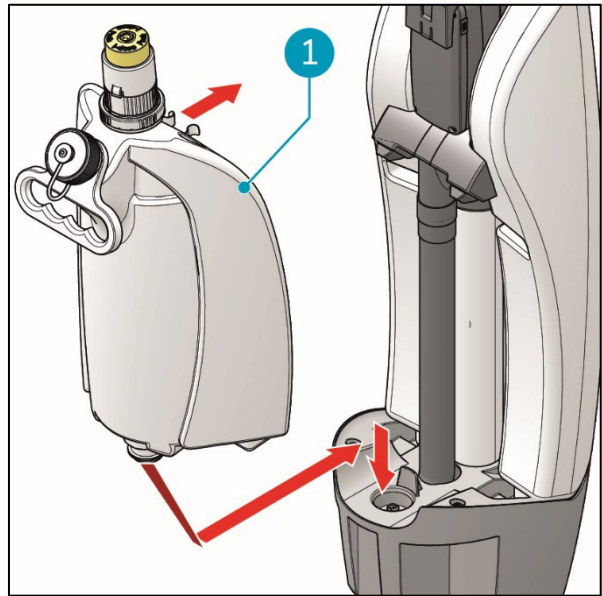

Figure 13
2. Put the cleaning solution tank (Figure 13, pos. 1) on the i-mop XL Pro with the valve first.